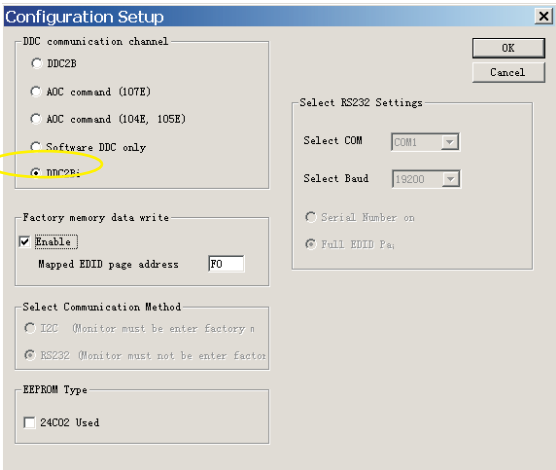

Fig. 12
2. Select the DDC2Bi as the communication channel. As shown in Fig. 12.